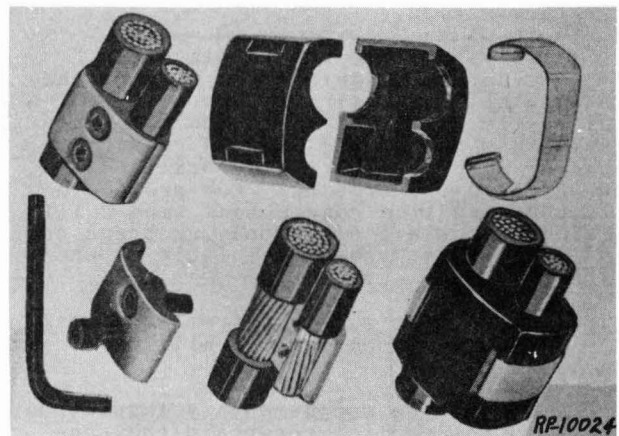

FIG. 5 KS-5537 PARALLEL CONNECTORS AND WRENCH (PARS. 5.01, 5.10)
heading elsewhere in this section. The parallel connectors covered in this paragraph are also known as "gutter taps". Various stages of connector assembly are shown in Figure 5.
5.10 Select the correct cover knockout and break out by forcing outward. This may be done by holding the knockout disc firmly between the flat side of a screw driver blade held on the inside, and the thumb on the outside of the disc. Pull straight away from the cover in the direction of the thumb. Remove irregularities at the break-out points only when they interfere with the proper seating of the cover. Place cover halves over the connector and snap the flat spring into the groove. Refer to Figure 5.